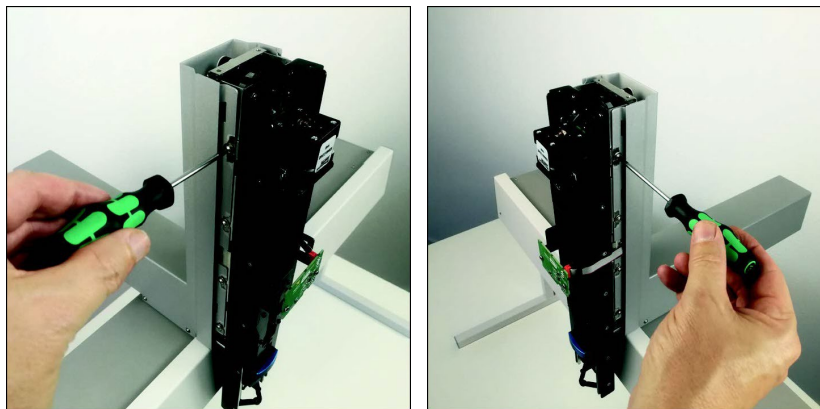

Figure 92: Rear Tower Assembly 3
4. Using a Torx Tx19 screwdriver, fasten the left and the right side of the tower rear cover with four screws per side (eight total) along the length of the vertical tower as shown in Figure 92.